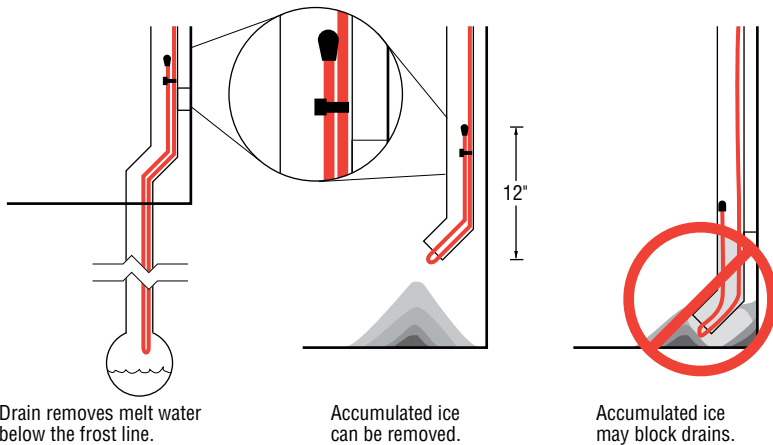

Figure 1.11 Heating cable at bottom of downspout.
- External downspouts and scuppers must be treated carefully. A path must be provided for the valley/perimeter heating cable to the point of discharge (see Figure 1.11 on page 9).